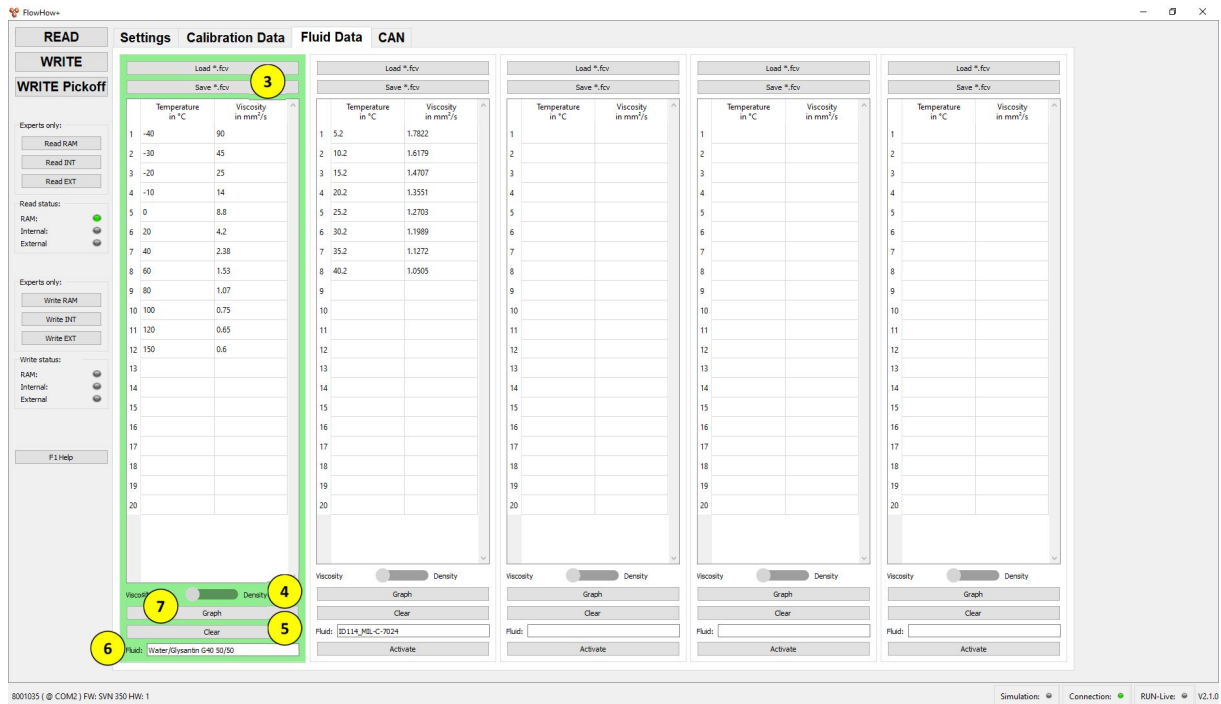

Fig. 15 Fluid properties data has been loaded
The table is then filled automatically. [Fig. 15 ]
A manual entry of the data with subsequent storage as a \*.fvc file (3) is also possible. [Fig. 15 ]
- Switching between viscosity and density data (4) [Fig. 15 ]
- Deleting table data (5) [Fig. 15 ]
- Optional filing of a personal note (6) [Fig. 15 ]
- Naming the viscosity or density curve (7) [Fig. 15 ]